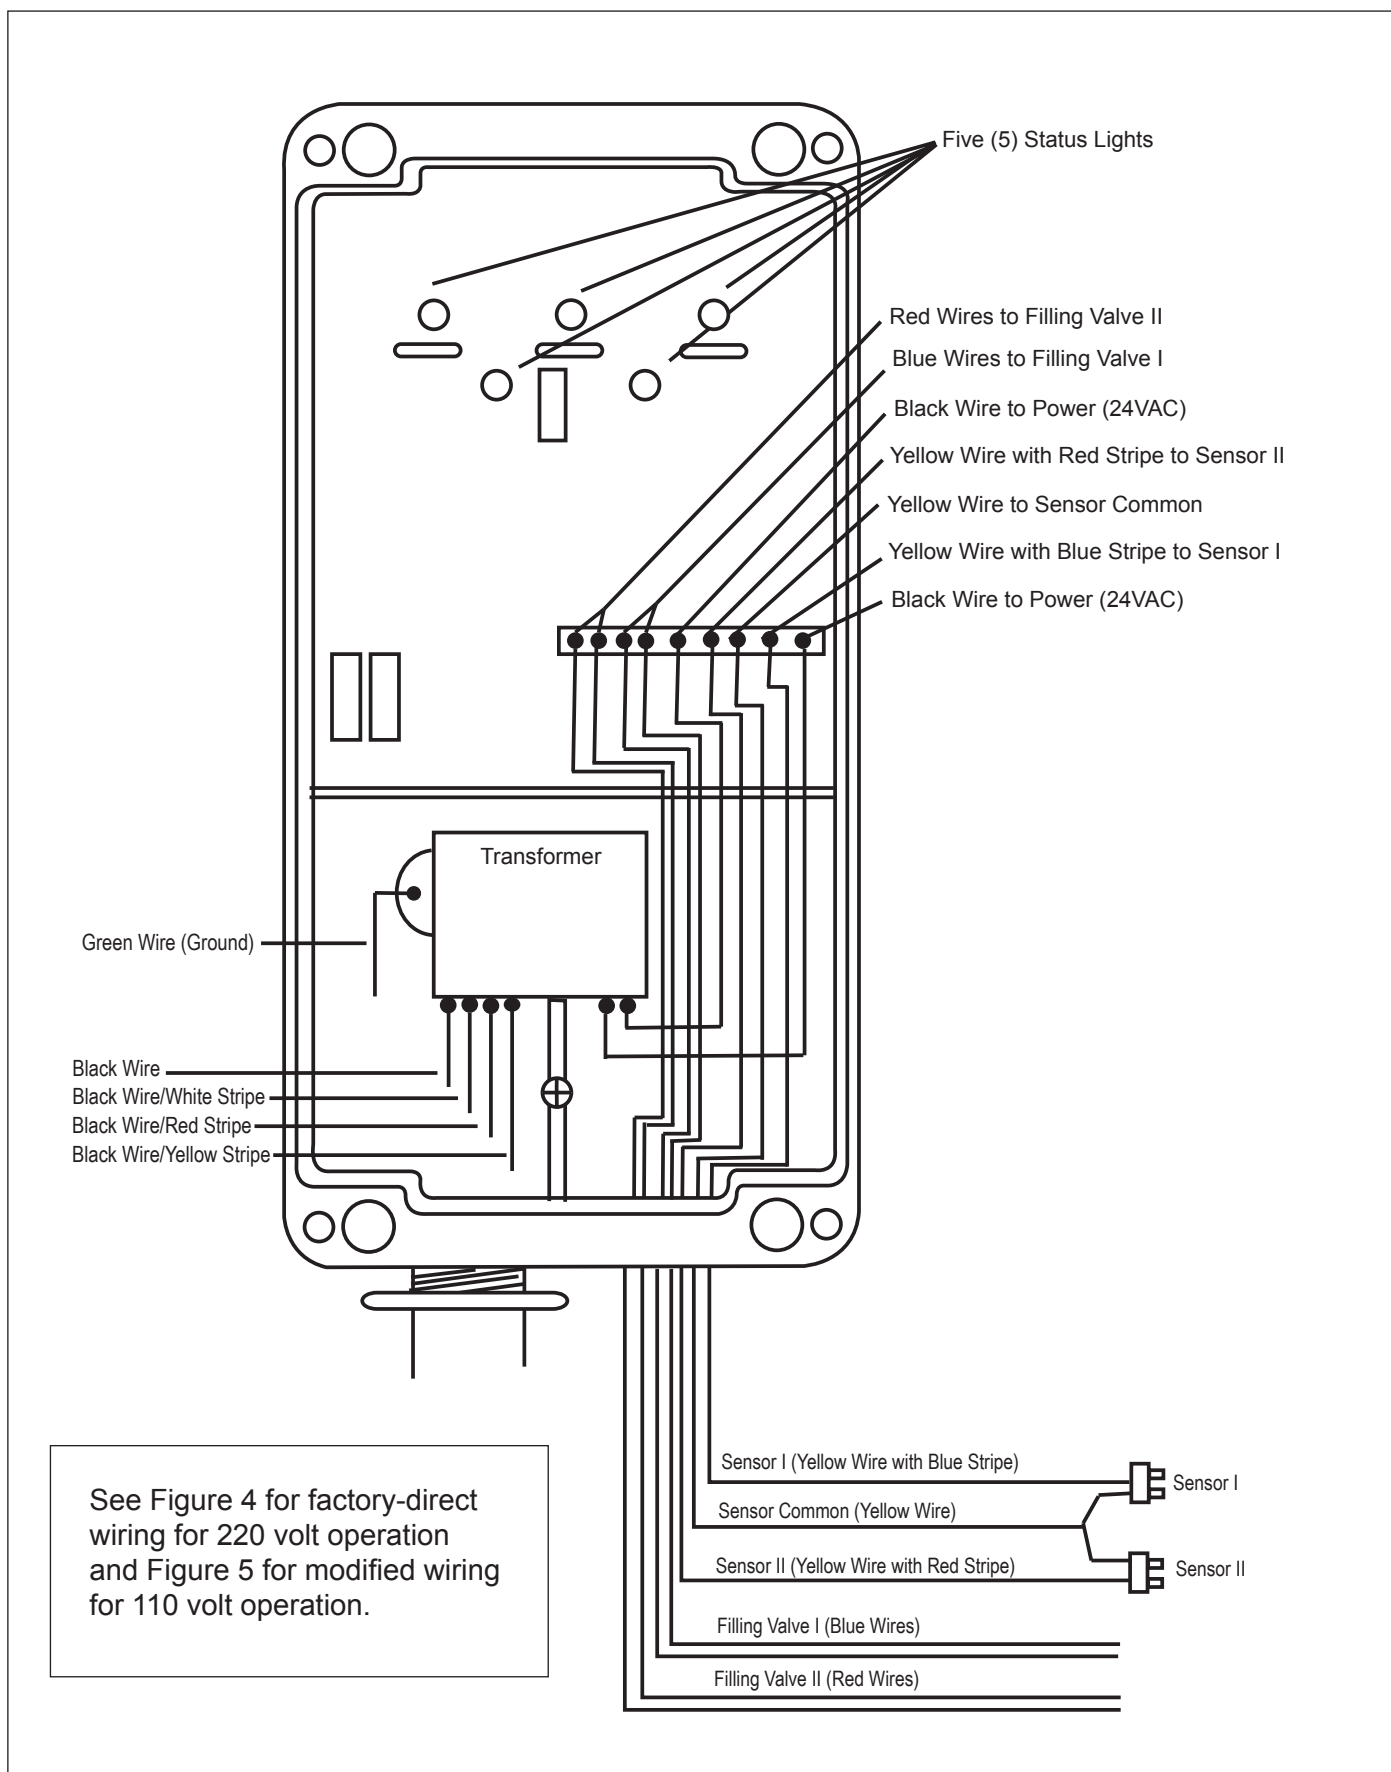

Figure 9. K-2300 Control Box
- a. Connect one (1) wire from Sensor I and one (1) wire from the Sensor II to the yellow Sensor Common wire using wire nuts. See Figure 9.
- b. Connect the other wire from Sensor I to the yellow wire with the blue stripe using wire nuts. See Figure 9.
- c. Connect the other wire from Sensor II to the yellow wire with the red stripe using wire nuts. See Figure 9.